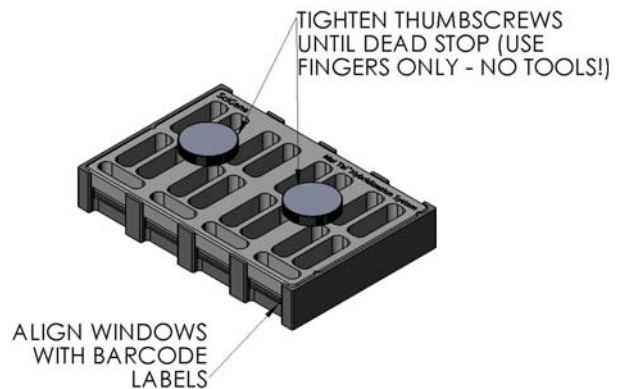

FIGURE 7
7. Place the cover plate over the arrays with the barcode window matching the barcodes on array. See Figure 7 showing correct placement and orientation of the cover plate.